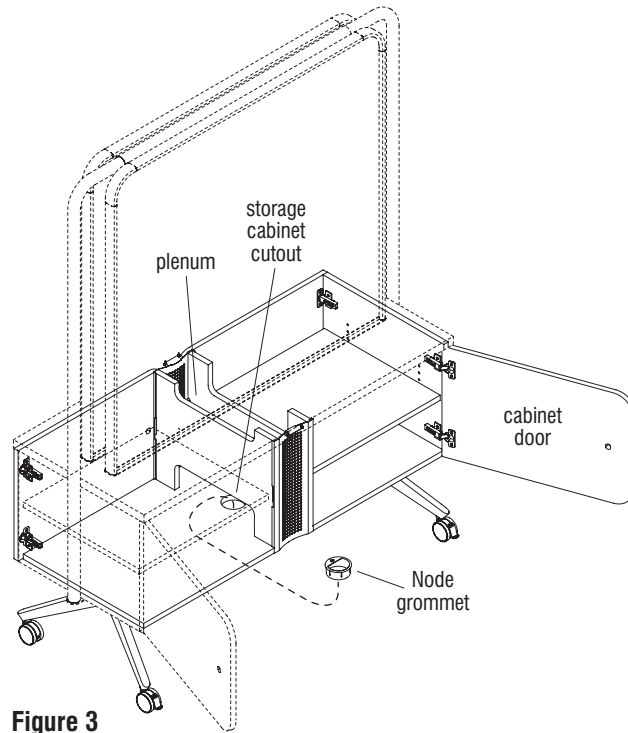

Figure 3
1. With the doors open on the storage cabinet, locate the storage cabinet cutout at the bottom of the open plenum (Figure 3 & Detail C).
2. Position the Node grommet above the storage cabinet cutout inside the cabinet, then push the grommet into the cutout, tapping lightly with a rubber mallet if required. Use caution to avoid scratching the grommet (Figure 3 & Detail C).